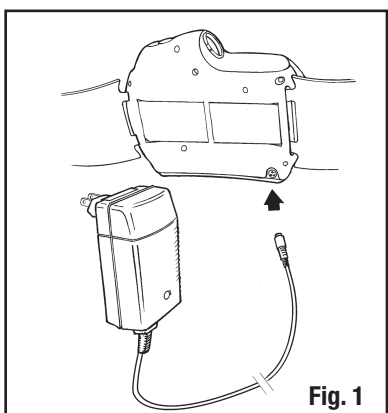

Fig. 1
3. Connect the charger output into the battery's charging socket (Fig. 1).